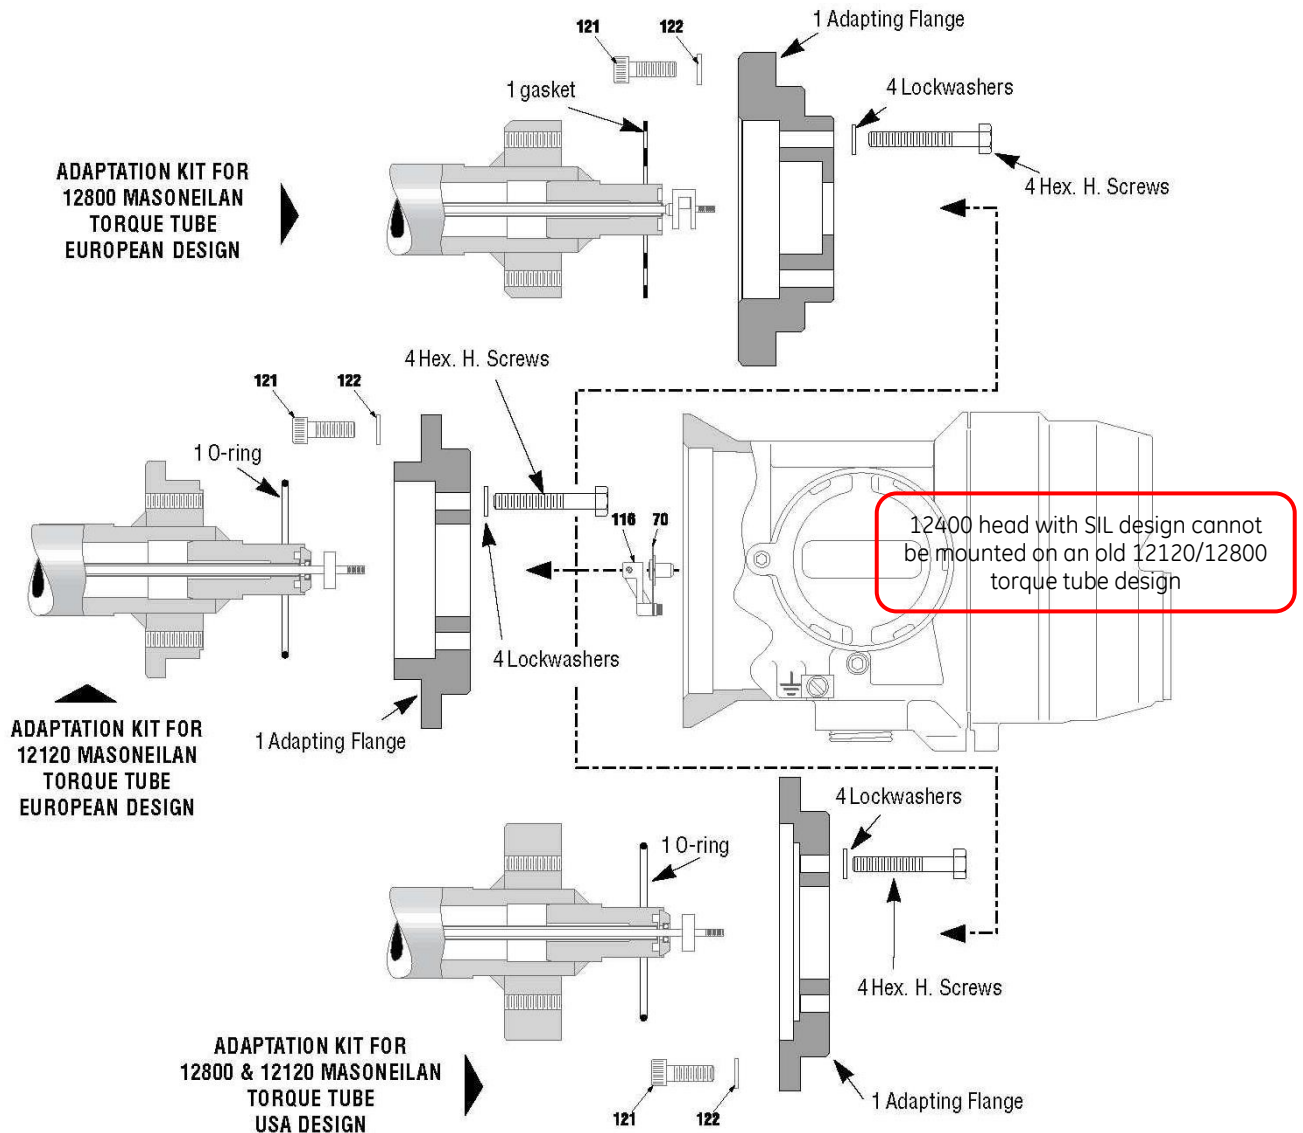

Figure 21 - Adaptation on 12800/12120 torque tube
- a. Switch off power supply. Unscrew safety screw (106) until it disengages from the case and remove the cover (104) of the connection compartment. Disconnect supply wires from terminals (90).
- b. Remove cover (107) of the mechanism compartment. Remove the spring arm (242) from the pin (243) on the beam to disengage and relax it.
- c. Using a 2.5 mm hex wrench, loosen screw (62) to uncouple the beam (54) from the torque rod.
- d. While holding the case to prevent it from falling, loosen the four screws (121), using a 5 mm hex wrench, and remove them along with the washers (122). Remove the case by pulling it along the axis of the torque tube while being careful to prevent from any deformation of the coupling flexure (70).
- e. If the original case or an identical one is reinstalled on the same torque tube, do not remove the coupling flange (116) from the torque rod. Also, do not disconnect the coupling flexure subassembly (70). As an alternative, loosen screws (119) using a 1.5 mm hex wrench and remove the coupling flange-flexure sub-assembly (116-70).
- f. If the torque tube is not dedicated to 12400 instrument, remove the DLT case adapter kit, if necessary. This kit includes a flange, a gasket, and screws, (see Figure 21).
### 9.2.2. ON A 12120 OR 12800 SERIES TORQUE TUBE (FIGURE 21)